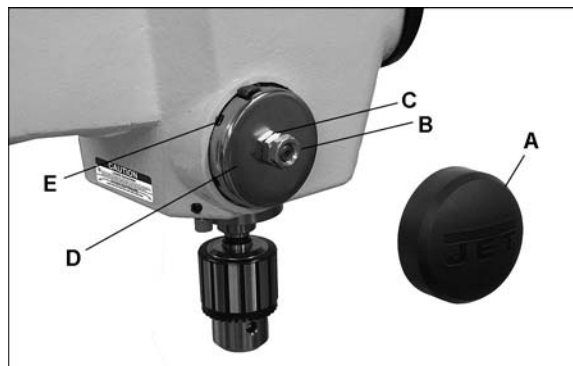

Figure 31
2. Pull off cap (A, Figure 31).
3. Loosen jam nut (B), and loosen inner nut (C) a small amount. *Do not remove the hex nuts.* The nuts should be backed off just enough to allow the spring housing (D) to be disengaged from the pin on the head casting.
4. Slightly pull out the spring housing (D) while firmly holding it. *DO NOT allow the spring housing to turn freely in your hand, or the spring will unwind.*
5. Rotate spring housing until tab (E) on the spring retainer engages the next notch in spring housing. Rotate coil spring housing counterclockwise to increase spring tension, clockwise to decrease.
7. Tighten inner nut (C) until it makes very light contact with the spring housing. Do not overtighten the inner nut, as it may cause binding of the pinion shaft.
8. Hold the inner nut with a wrench to prevent further movement, while tightening the jam nut (B) against the inner nut.
9. Install cap (A).